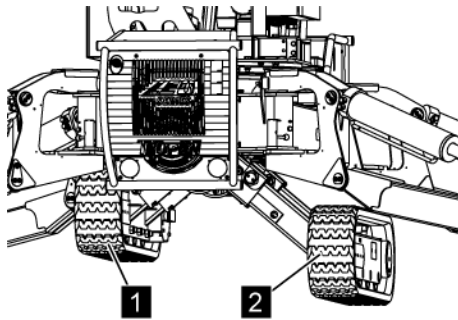

Fig. 19: Crawler chassis
In Fig. 19 the left-hand chassis (1) is completely retracted and the right-hand chassis (2) is completely extended.